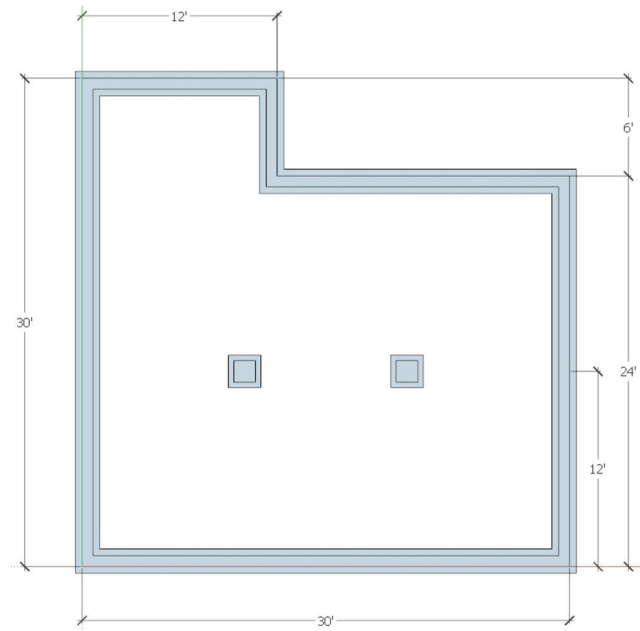

Figure 10.23 Faces.
17. Next, you need to delete the face representing the interior of the structure. All you need is the footing and wall outlines (faces) at this point. To do this, simply Select the interior face (press space-bar and click on face) and press Delete. Finally, you need to delete the Guides. Select Edit > Delete Guides (I do this so often that I created a keyboard shortcut). Figure 10.23 depicts how it should now look.